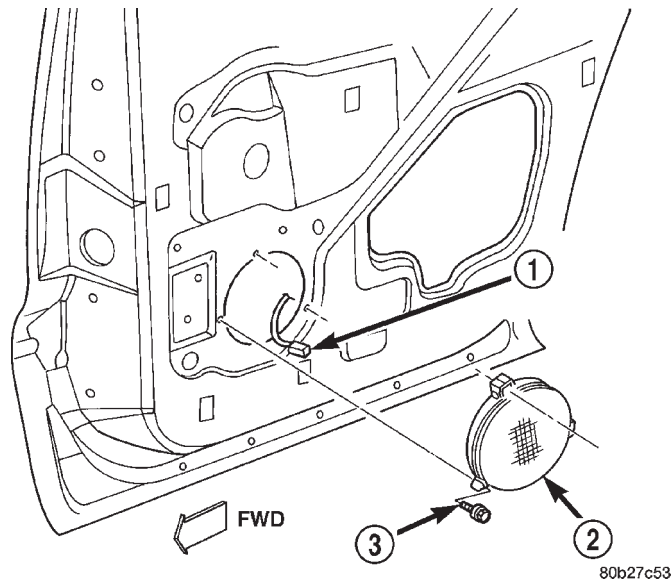

Fig. 9 Rear Door Speaker Remove/Install
- (1) Disconnect and isolate the battery negative cable.
- (2) Remove the trim panel from the rear door. Refer to **Rear Door Trim Panel** in the Removal and Installation section of Group 23 - Body for the procedures.
- (3) Remove the three screws that secure the speaker to the rear door inner panel (Fig. 9).